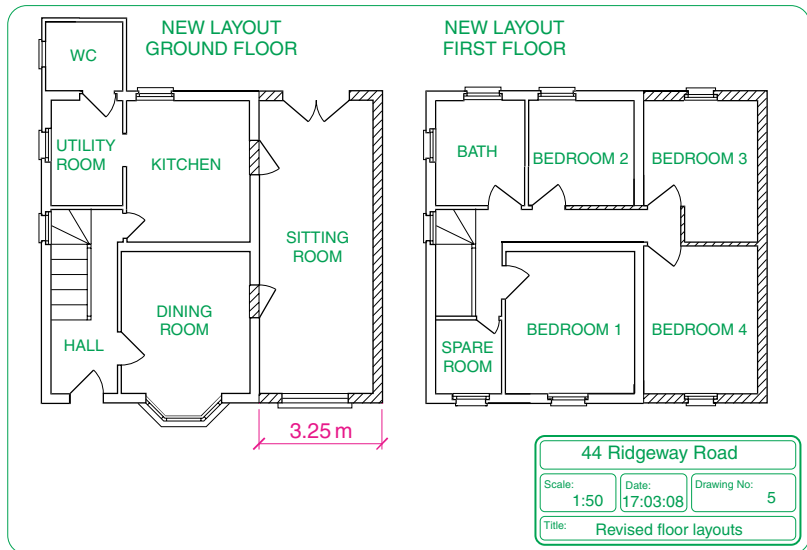

Fig. 12.5 Floor layouts drawing of the proposed extension
5. Floor layouts including the proposed extension, drawn to a scale of **1:50** (Fig. 12.5).